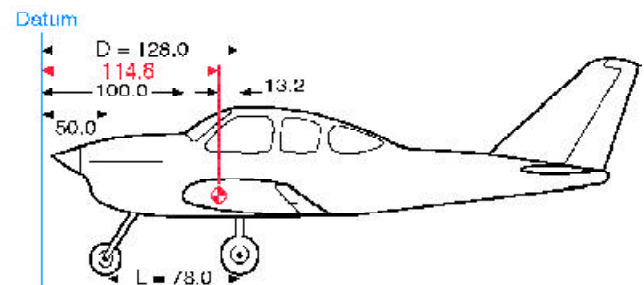

Figure 3-5. The datum is 100 inches forward of the wing root leading edge.
The datum of the airplane in Figure 3-5 is 100 inches forward of the leading edge of the wing root, or 128 inches forward of the main-wheel weighing points. This is distance (D). The weight of the nose wheel (F) is 340 pounds, and the distance between main wheels and nose wheel (L) is 78 inches. The total weight of the airplane (W) is 2,006 pounds.